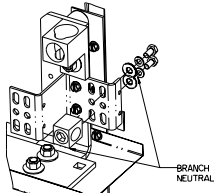

Figure 10
11. Reference fig. 10 - Installing the Branch Neutral Lug assy. (item 21) in a Panelboard. The Branch Neutral is located at the bottom of the "Z-rails", or mirrored at the top depending upon the feed cable location. Two (2) different Neutral Lug assemblies are included in the kit, be sure to install the type pictured below. The Neutral lug assemblies can be mounted, as shown, on either side of the Branch Neutral depending on cable feed location. Torque all hardware as specified on the rear of the deadfront.